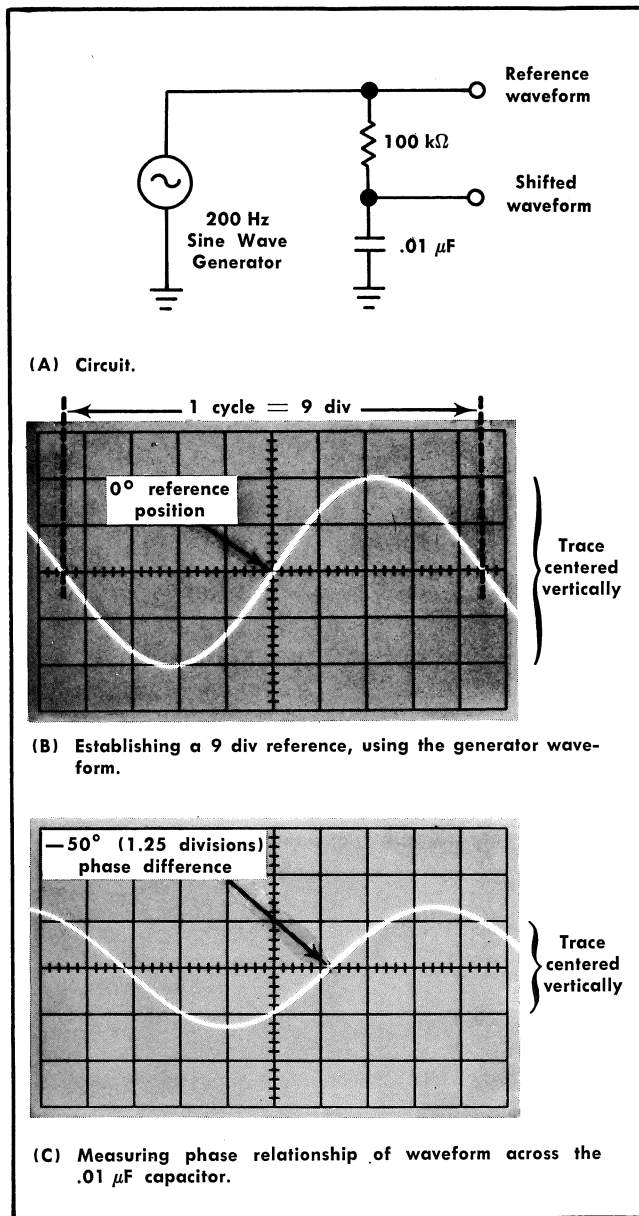

Fig. 2-14. Measuring phase relationships.
External triggering is extremely useful in measuring phase difference between signals. The circuit in Fig. 2-14(A) is used to demonstrate this feature.
controls so that one cycle of the reference signal covers 9 divisions of horizontal trace, passing through 0° at the intersection of the graticule center lines as in Fig. 2-14(B). This causes each division of horizontal base line to display 40° of the waveform being applied.
Disconnect the reference waveform from the vertical input. Connect the shifted waveform to the vertical input connector and measure the amount of separation between the graticule center line and the waveform 0° point as in Fig. 2-14(C). Convert the amount of separation to degrees, using the 40°/div value which was established previously. If the 0° point has moved to the left, the waveform leads the reference. If it has moved to the right, the waveform lags the reference.